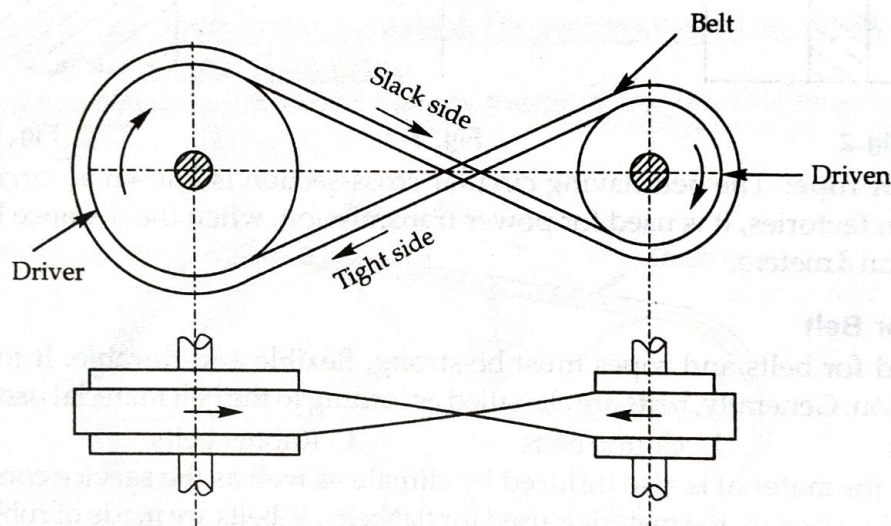

Fig. 6 Cross belt drive
2. **Crossed belt drives:** Figure 6 shows the crossed belt drive. In this case, the shafts are arranged parallel and rotate in opposite direction. If the centre distance remains same, then the angle of contact is more in case of crossed belt than open belt drive. So the chances of belt slip, in this drive is reduced to an extent. The belt will more wear and tear at a point where the belt crosses.